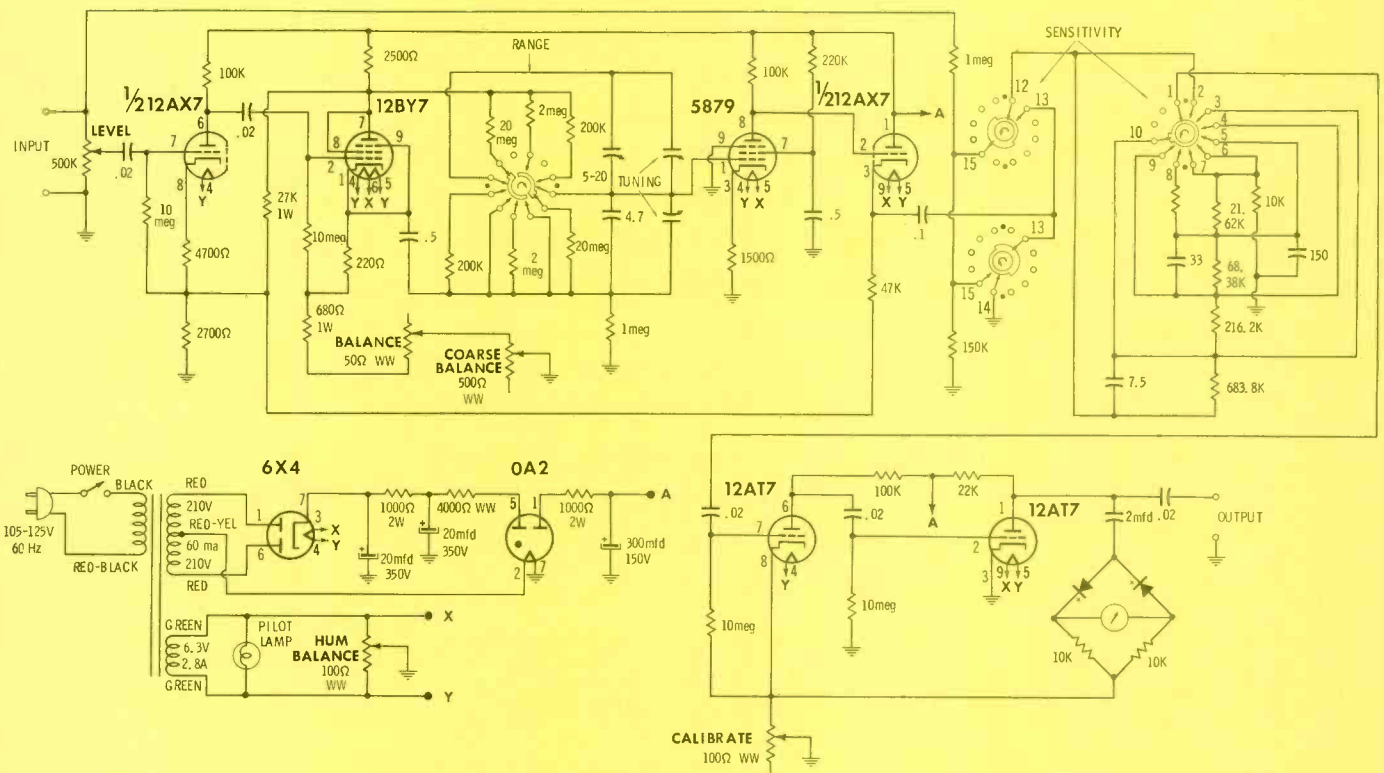

Fig. 2 Circuit diagram of a typical harmonic distortion analyzer.
Fig. 2 shows a schematic diagram for a typical instrument. The meter indicates the "remains" of a signal under test as a percentage of the signal under test after the fundamental frequency is eliminated. The "indicated remains" include all
The circuit depicted in Fig. 2 may be considered to have three parts: (1) the fundamental suppression circuit; (2) the voltmeter circuit; and, (3) the power supply. Note that the fundamental suppression circuit consists of a triode voltage amplifier (one-half of a 12AX7) driving a phase splitter (12BY7). This phase splitter feeds a Wien-bridge null network that suppresses the fundamental test frequency. In turn, the signal "remains" are stepped up by a voltage amplifier (5879), which drives a cathode follower (one-half of a 12AX7).